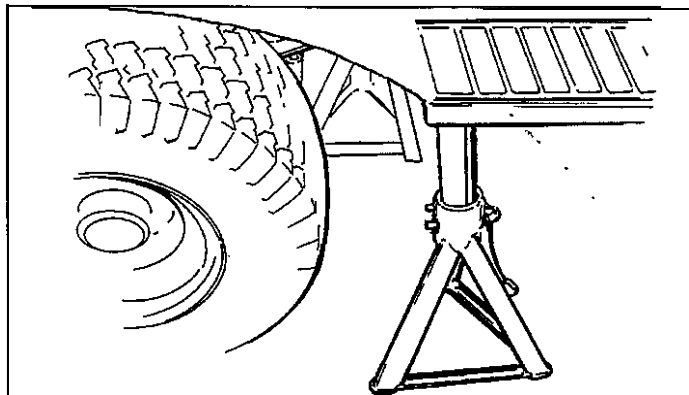

Figure 17. Supporting the Tractor
4. Support the rear of the unit on jackstands positioned under the rear frame (see Figure 17).